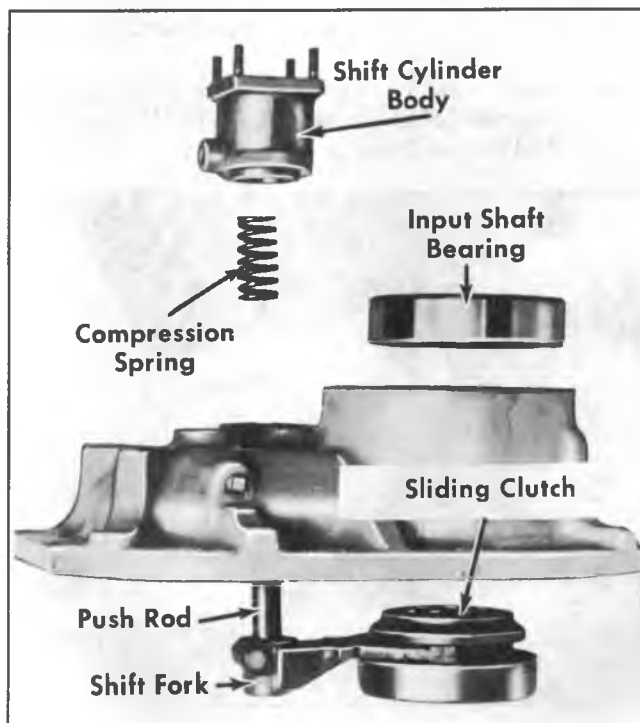

Fig. 12M—Air Operated Lockout Shift Components
2. Remove cap screws, lock washers, shift cylinder body assembly and gasket from case cover (fig. 12M). Shift cylinder body assembly includes a piston, two felt oilers and a filter.